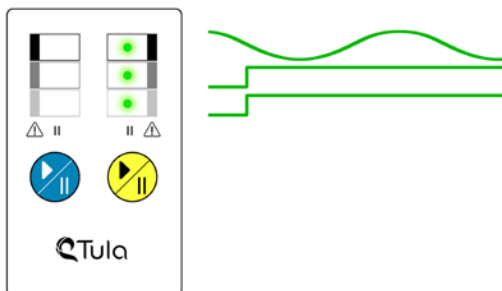

Figure 22. Yellow Channel Delivering Current on the 3rd Segment in Reduce Mode
- a. **Reduce Mode:** By pressing the button twice in rapid succession (ie, double-click), the user can put the selected channel into Reduce mode. This will cause the selected channel to ramp-down until it reaches a new steady-state that is 25% less than nominal. The Progress Light will fade on and off at a slower rate, indicating reduced current delivery. **Figure 22** shows the Yellow channel with two segments Complete and the third Progress Light in a slower Run pattern, indicating current flow in the reduced state in the final third of the iontophoresis program.